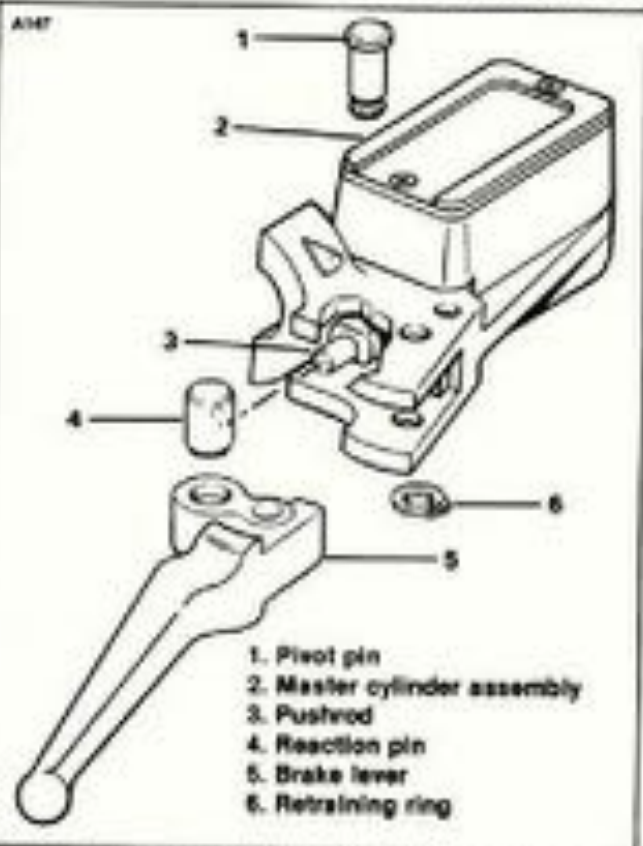

Figure 2-48. Front Brake Hand Lever
4. See Figure 2-48. Lightly coat reaction pin (4) with Loctite ANTI-SEIZE and insert it into the large hole in the brake lever (5). Assemble the brake lever (5) to the master cylinder assembly (2) using pivot pin (7) and retaining ring (6). Make sure the push rod (3) fits into hole in reaction pin (4). Check front brake lever for proper operation.